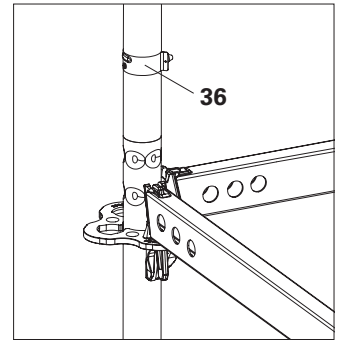

Fig. C1.02
2. Connect the Standards UVR-2 (**12**) with locking pins (**12**) so that they are tension-proof. (Fig. C1.02)